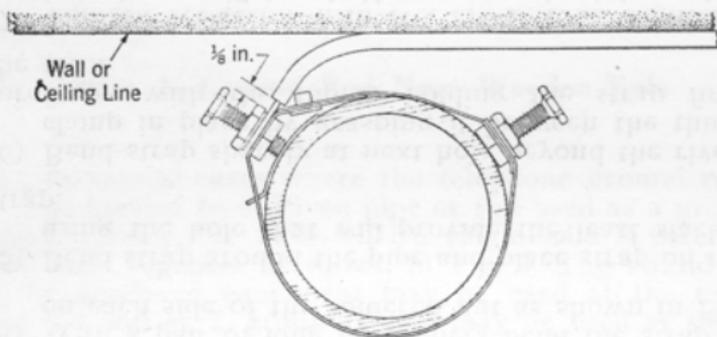

Fig. 1—Typical Ground Clamp Installations
- (1) Back off lock nut to head of set-screw.
- (2) Back off set-screw to where it does not project through soldered nut.
- (3) Form copper shoe to contour of pipe. It comes formed for a small pipe. To form for larger pipe place it on pipe and press it down firmly against the pipe. The shoe will bend to fit the contour of the pipe.
- (4) With a pair of long nose pliers bend the strap sharply on each side of the soldered nut as shown in Fig. 1.
- (5) Bend strap around the pipe and place strap on the rivet using the hole that will provide the least slack in the strap.
- (6) Bend strap sharply at next hole beyond the rivet. Hold clamp in place by grasping it between the thumb and forefinger with the thumb holding the strap firmly on the rivet.
- (7) Tighten set-screw with No. 216-B tool. Tighten firmly but clamp will break if set-screw is tightened beyond reasonable limits. On pipes of brass or copper tubing set-screw will unduly dent pipe if tightened beyond reasonable limits. Avoid producing more than a slight dent in pipe (hardly perceptible).
- (8) If pipe is too large for the ground clamp use two clamps bolted together as shown in Fig. 1.
- (9) If a ground wire caution tag warning workmen against disturbing the ground clamp or ground wire connection is used it should be attached to the ground clamp strap between the screw and the tip of the copper shoe.